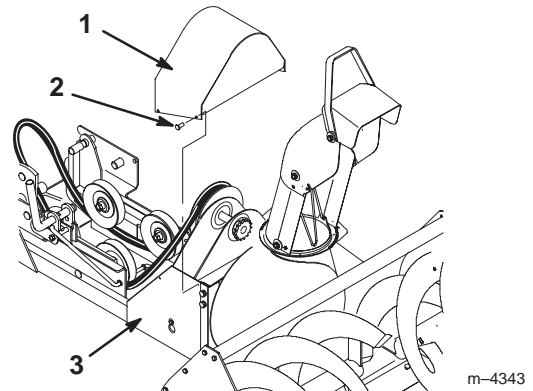

Figure 8
5. Attach the pulley cover to the snowthrower frame assembly with (4) #10 x 1/2" (13 mm) screws (Fig. 8).